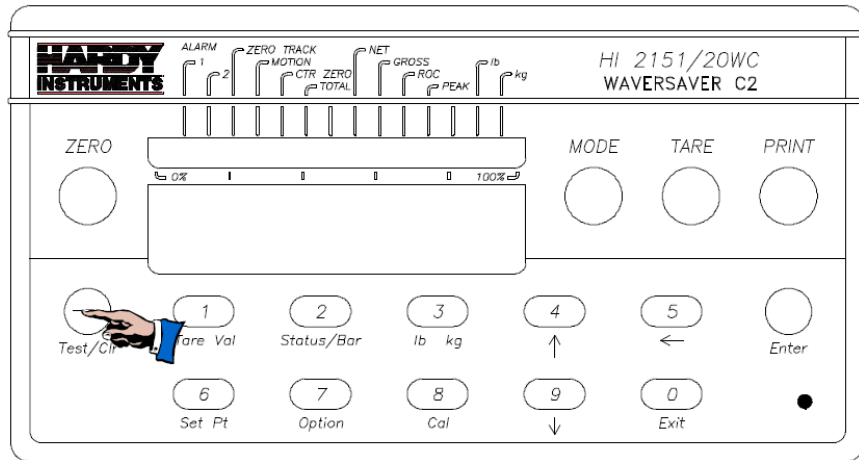

Figure 3-3
6. Press the Test/Clr button. The display should now show four “0’s”. (See Fig. 3-3)